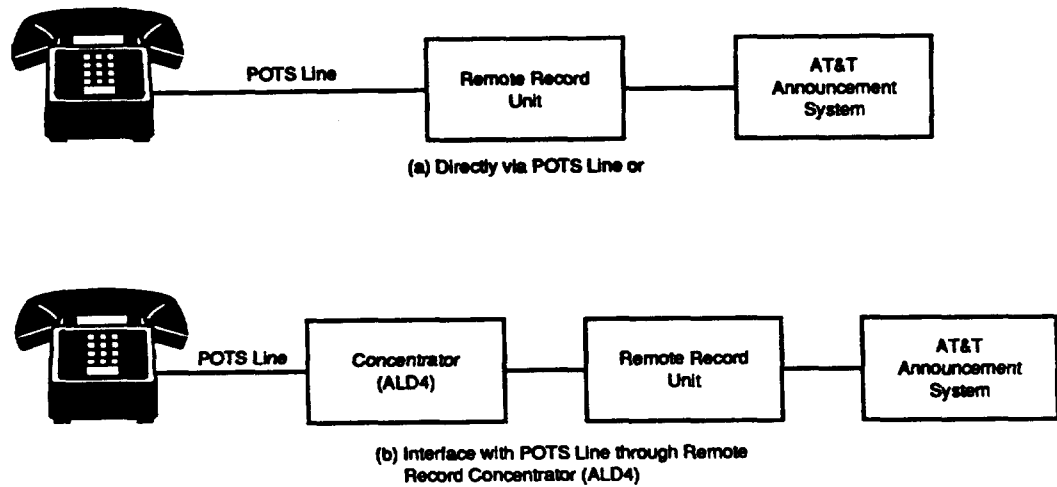

Figure 1. Accessing Remote Record Unit
- (f) Add Figures 1 and 3 to illustrate the system architecture.
1.08 The RRU is accessed via a line Plain Old Telephone Service (POTS) or via a POTS line interfaced with a Concentrator (ALD4) circuit See Figure 1. In each case a Line Interface Circuit (LIC), which resides on the printed wire circuit pack, is available to the public switch network. When the circuit pack is accessed remotely by a Touch Tone telephone, it interacts with the user via tone prompts. Using the Touch Tone keyboard, the user enters a security password and a series of commands to record and play back messages.